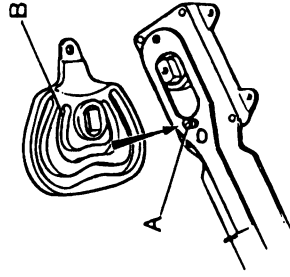

Fig. 4
- Turn the throttle lever 180°, and refit. Note that at pushing throttle the roller (A fig. 4) must be in the inner groove (B fig. 4).